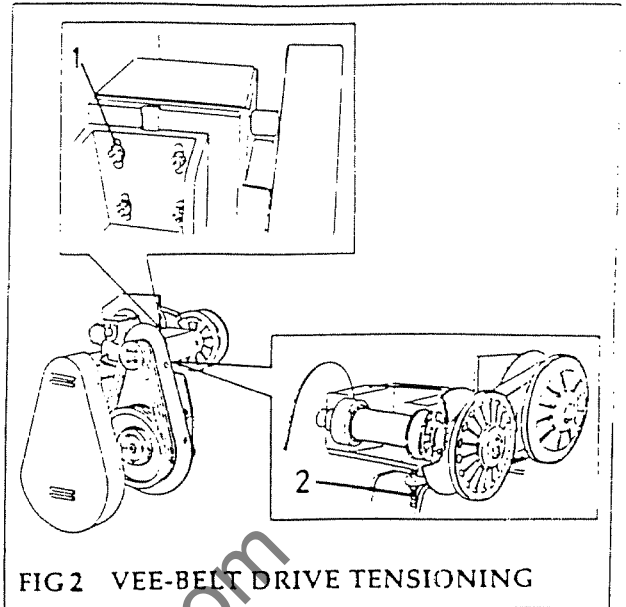

FIG2 VEE-BELT DRIVE TENSIONING
(1) Remove the drive cover.
(2) Check belt tension. The belt should be capable of being depressed approximately 1 1/2 - 2 cm per metre of span by application of average thumb pressure, 5 -7 pounds force.
**variable speed drive belt (Fig 2)**
50mm and 1.13/16" Spindles only (Fig.2)